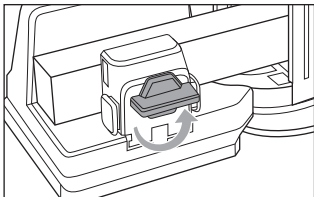

Fig. 8
- ◆ Turn the locking button ❺ anticlockwise to release the wooden workpiece (see fig. 8).